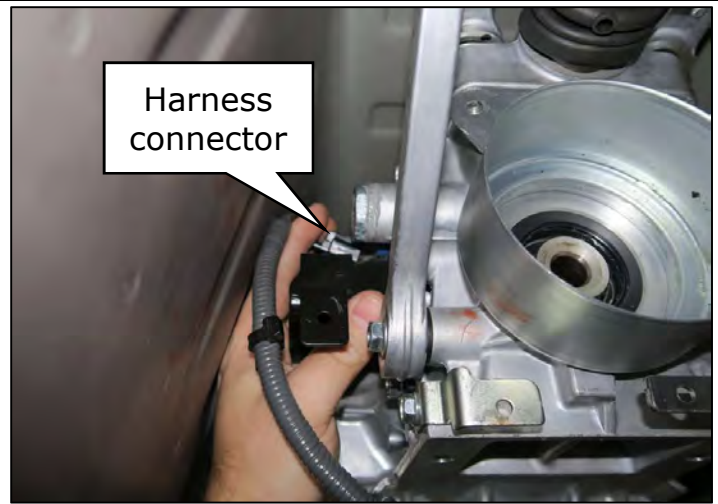

Figure 81
83. Route the rear section of the wiring harness as shown Figure 81.